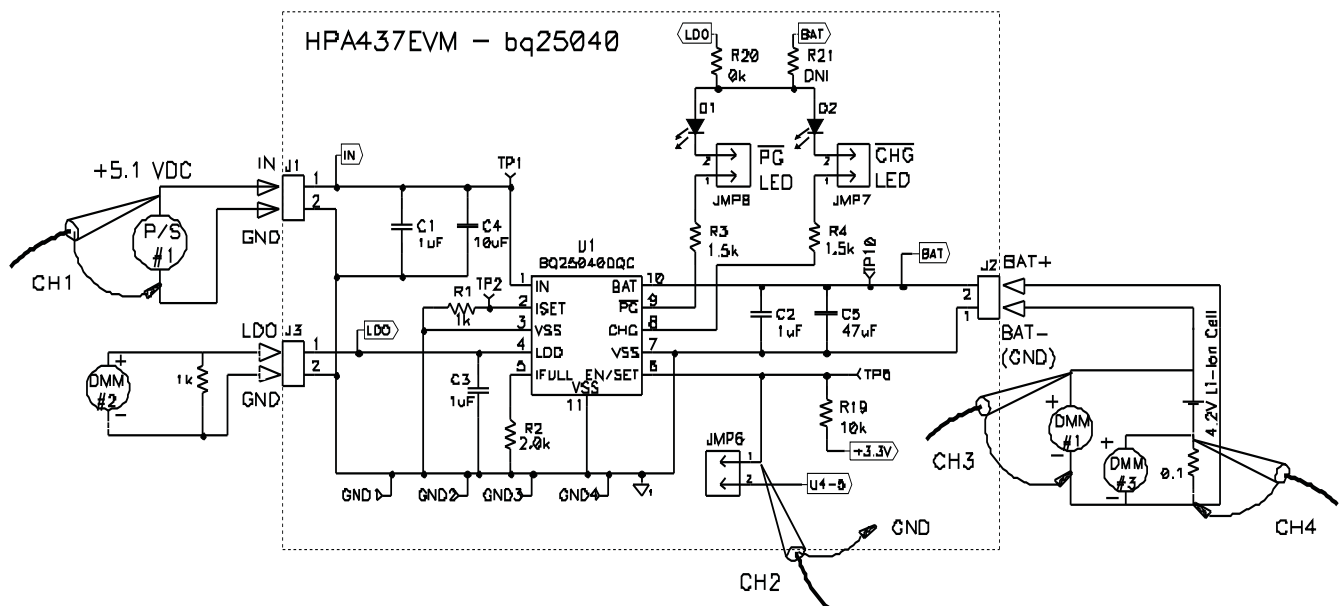

Figure 1. Evaluation Setup Charging Circuit Shown; Pulse Programming Circuit not Shown
- Connect the DMMs and oscilloscope as shown in Figure 1, if desired.